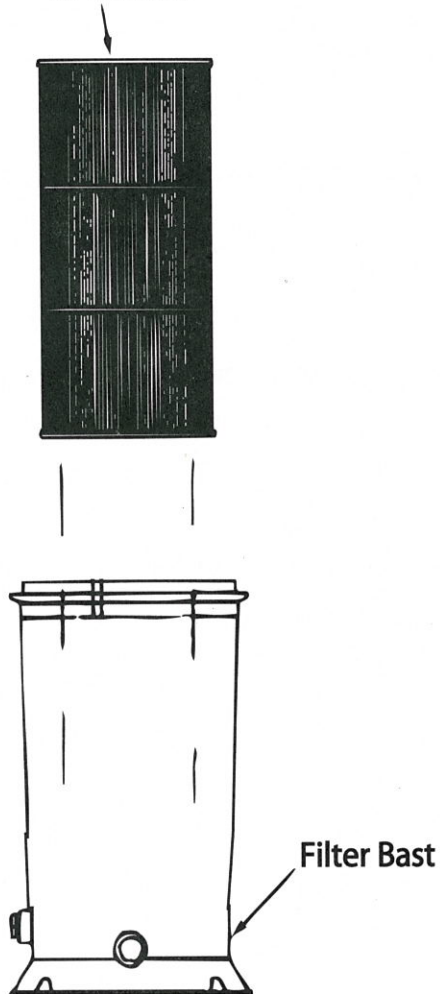

FIGURE 3
3. Make sure filter element is flush with base of filter to avoid damaging element when you replace the filter head (Figure 3).